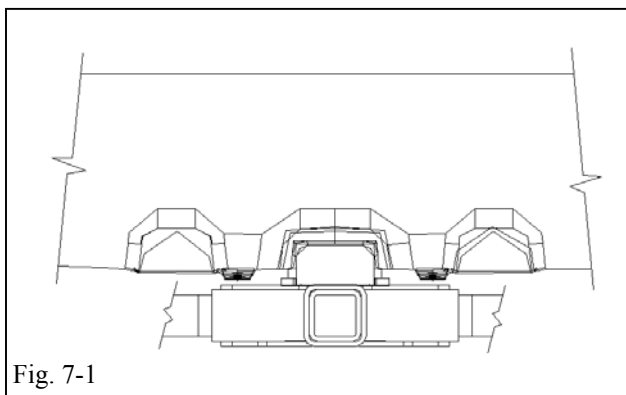

Fig. 7-1
- Visually center hitch so that closeout panel is centered in fascia cut out. (Fig. 7-1)